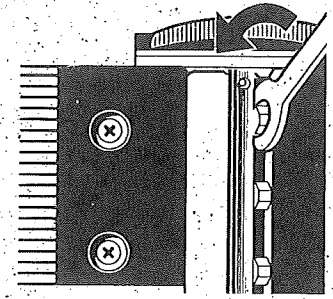

Fig. 4
2. Using the hex wrench provided, loosen the hex nuts, as shown in Figure 4.